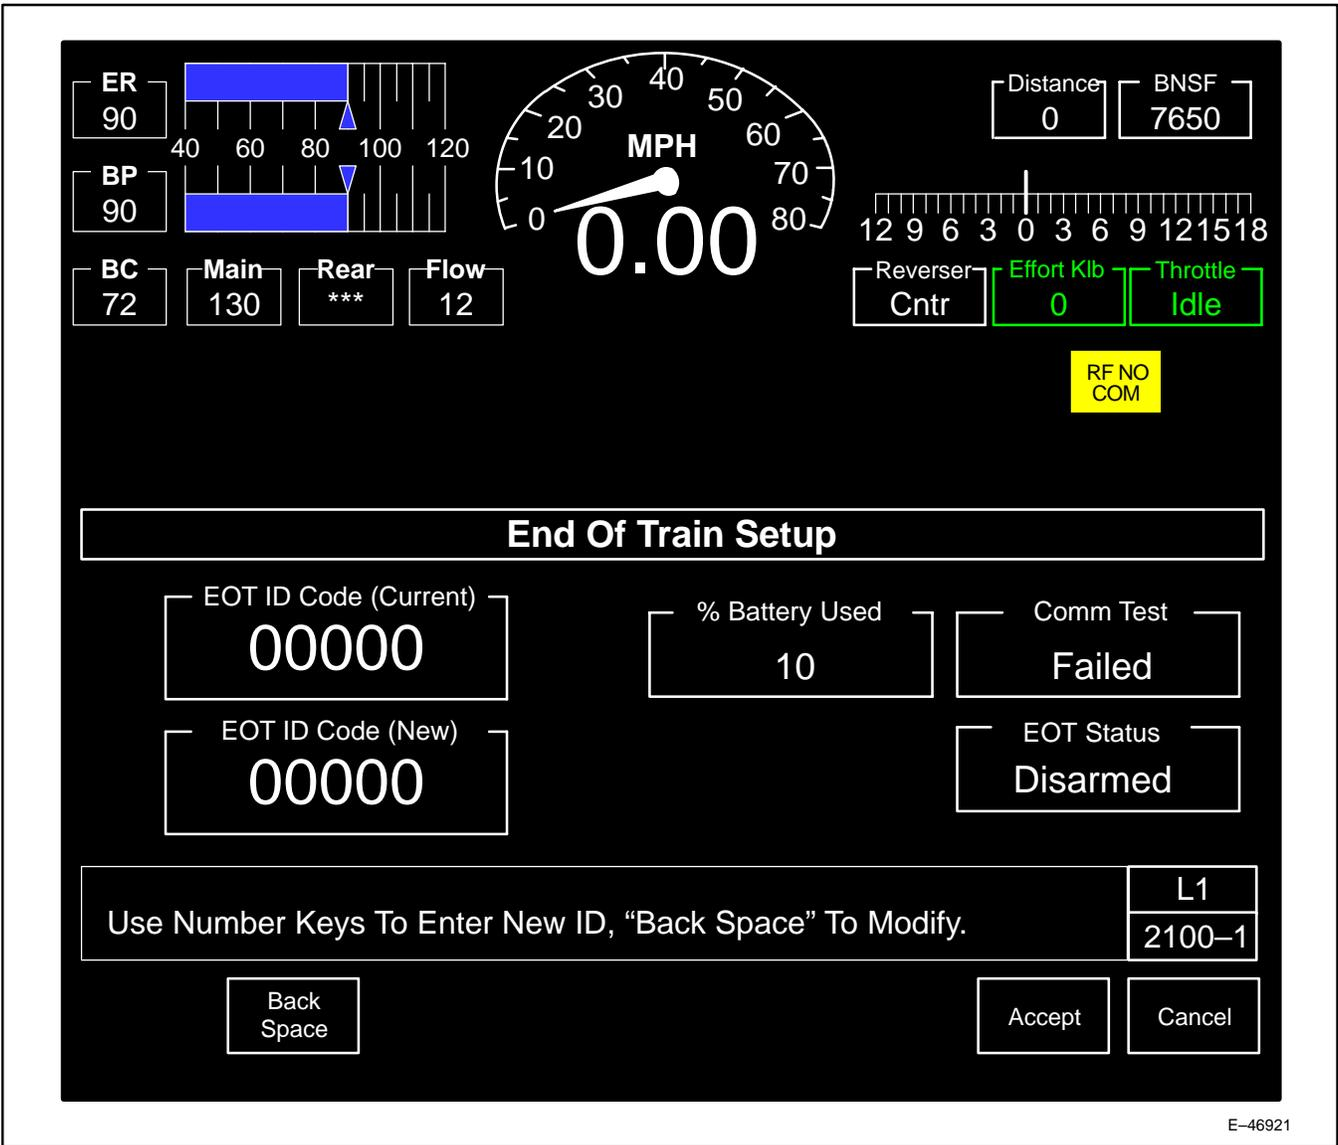

Figure 46. End Of Train Change Setup Screen (2100-1).
1. Pressing key position F3 (**Modify ID Code**) will display screen 2100-1 (Figure 46). Three keys are available on this screen as follows: